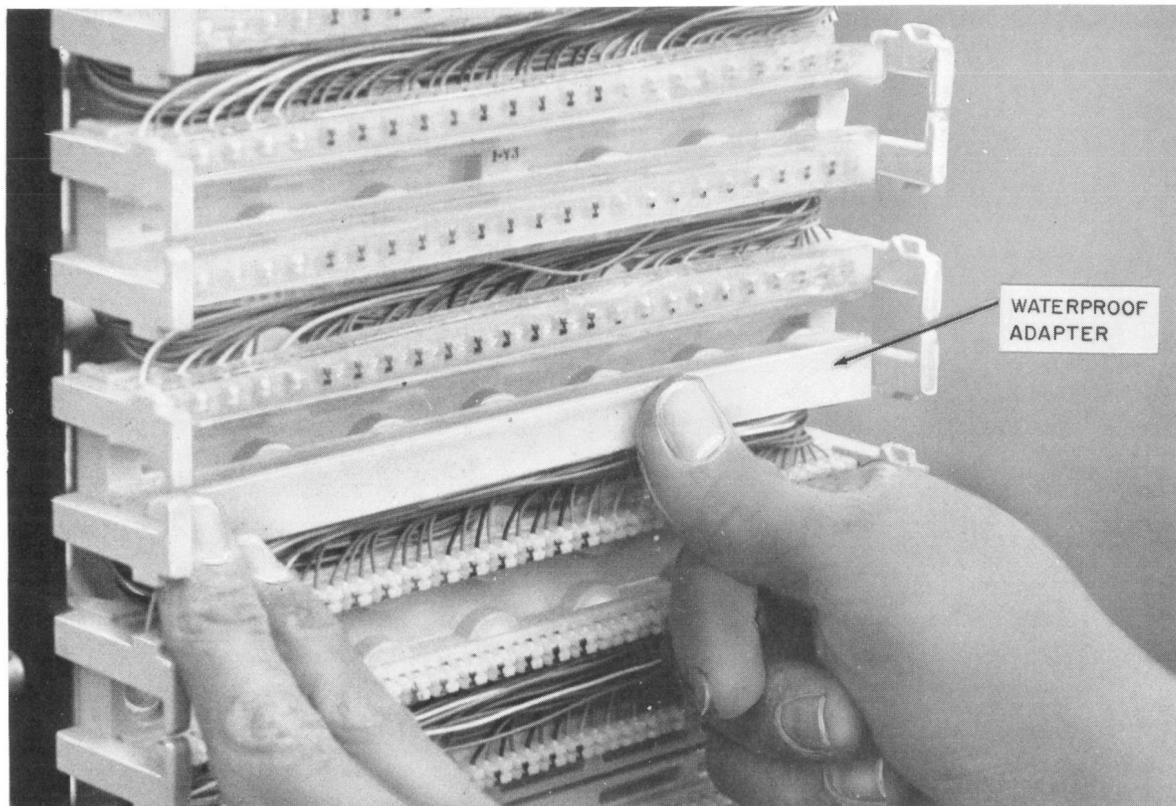

Fig. 21—Seating Waterproof Adapter
9.02 Seat the adapter over the index strip, then rub thumb across tape as shown in Fig. 21 to assure grease fills all voids.